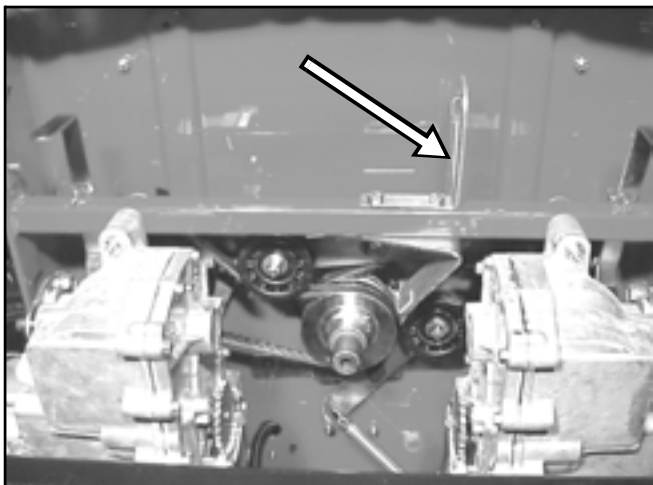

Figure 27
2. Install the second drive belt around the left side transaxle pulley and then work it around the engine drive pulley. Install idler spring to the rear spring bracket (Figure 27).